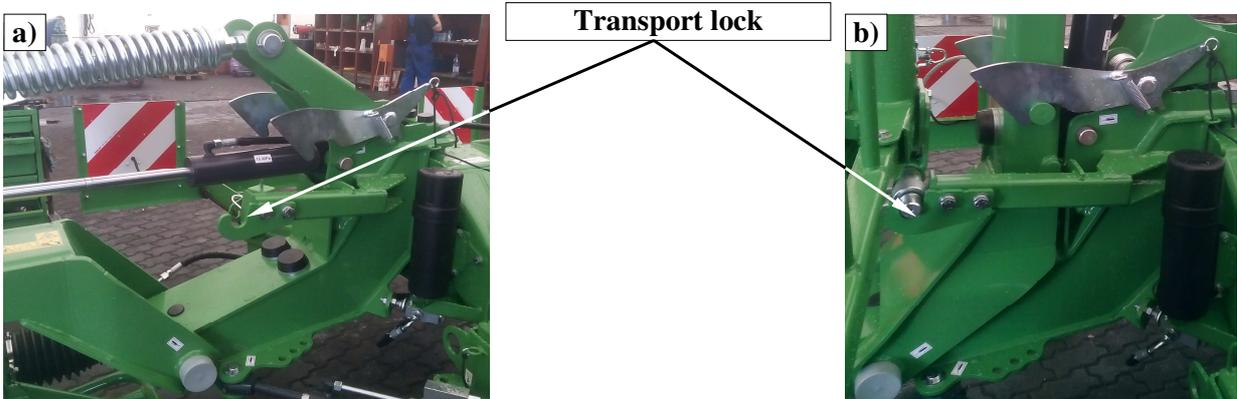

Fig. 20. Transport lock: a) Operating position (mowing), b) Transport position with lifted mower
- the mower is equipped with service-free transport lock (**Fig. 20**). Failure to secure the lock may cause damage to PTO shafts.